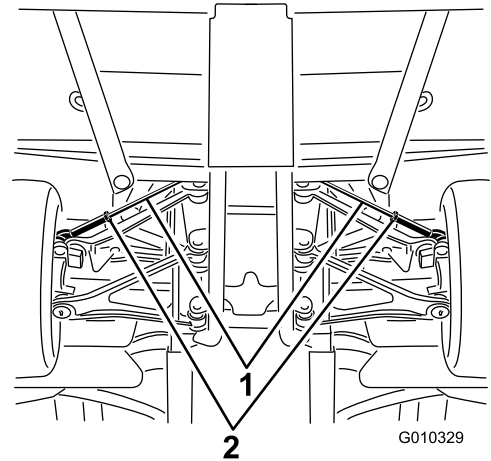

Figure 56
- A. Loosen the jam nut at the center of the tie rod (Figure 56).